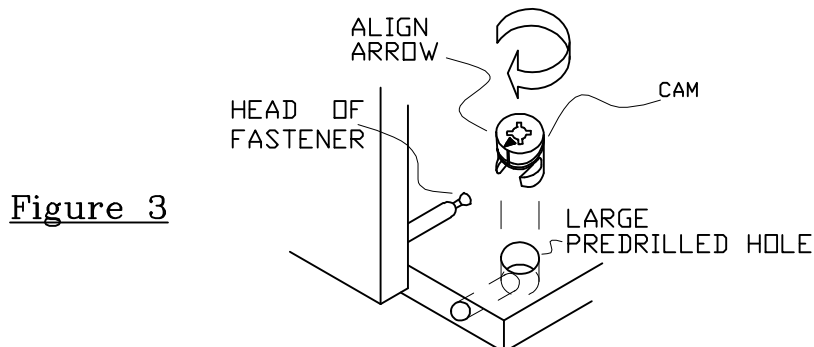
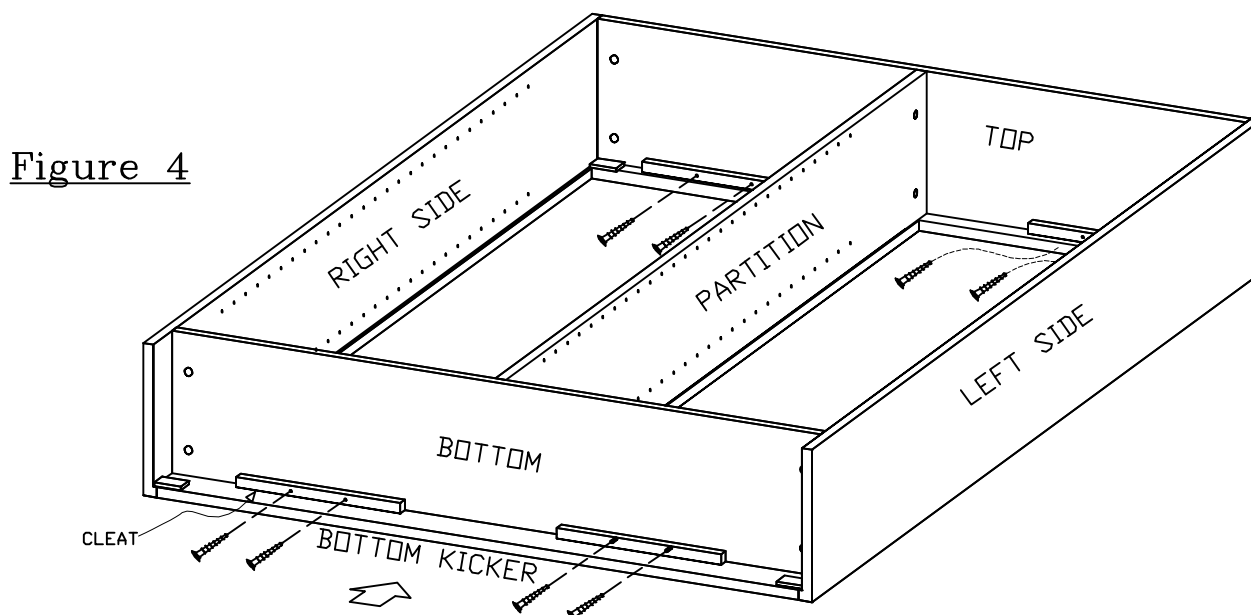

Figure 3
Figure 4
Step 16. Install 12 Cams into the large pre-drilled holes. Point the arrow on the Cam in the direction of the fastener pin. Push the Cam into the large predrilled hole. Use a screwdriver, to turn each Cam approximately 1/2 turn in the direction of the arrow (clock-wise) to lock it in place. **DO NOT OVER TIGHTEN**. See Figure 3.
Step 17. With your friend, carefully turn the bookcase onto its face. See Figure 4.
Step 18. With your friend, slide the **BOTTOM KICKER** (with the cleats facing up and finished edge band to the top of the unit) under the **BOTTOM** - until the cleats make contact with the **BOTTOM**. Make sure that the plywood flaps are flush with the raised edges of the sides. See Figure 4.
NOTE: If the **BOTTOM KICKER** does not slide easily between the **SIDE PANELS** under the **BOTTOM**, open (unlock) cams on one side, slightly tap and open the **PANEL** and slide the **BOTTOM KICKER** in. When **BOTTOM KICKER** is in place please tap gently to close the gap between the **PANELS** and tighten the cams. See Figure 4 and Figure 3.
Step 19. Install 2 Long Screws through the predrilled holes of each cleat of the **TOP KICKER** and into the **TOP**. **DO NOT OVER TIGHTEN**. See Figure 4.
Step 20. Install 2 Long Screws through the predrilled holes of each cleat of the **BOTTOM KICKER** and into the **BOTTOM**. **DO NOT OVER TIGHTEN**. See Figure 4.